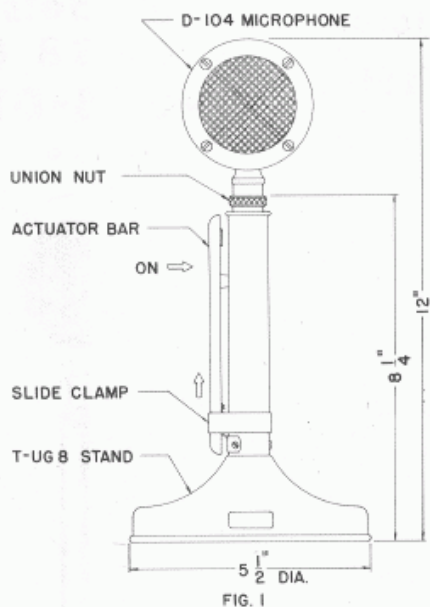
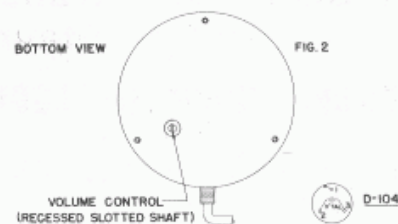

FIG. 1
FIG. 2
- SIZE: See Fig. 1.
2. The D-104 is one of a group of "Plug-In" microphones compatible with the "G" series of stands. It plugs into the top of the mast and is locked on by means of the union nut (See Fig. 1).
VOLUME CONTROL located in the base to eliminate accidental changes should be set at minimum gain - complete COUNTER CLOCKWISE position when viewed from bottom of stand. TURN "ON" the transmitter and squeeze the actuator bar in direction as noted in Fig. 1. Operating the actuator bar operates the transmit-receive circuits. While talking into the microphone at normal operating distance, slowly turn the volume control (Fig. 2) up until modulation is at desired level. Once properly set, the volume control should not require resetting under equivalent operating conditions.